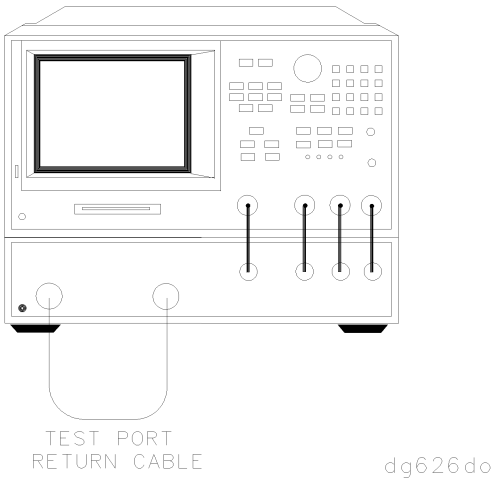

Figure 1-19. Transmission Mode Connections
- 8 Connect the equipment as shown in Figure 1-19 and press PRESET.